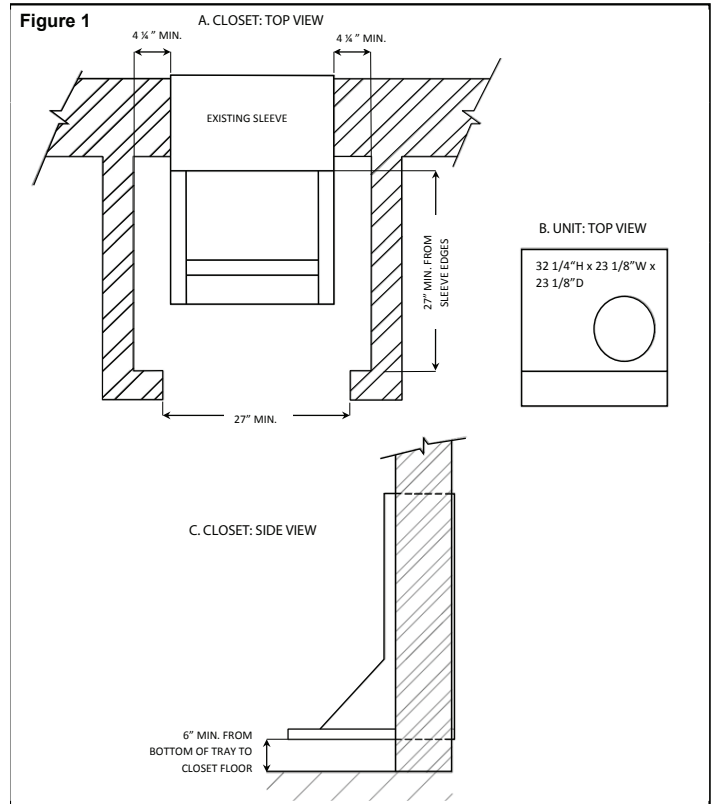

Figure 1
(See Figure 1)
**Important!** Verify that closet meets minimum clearance requirements prior to proceeding with installation. (See Step 1 below and Figure 1)